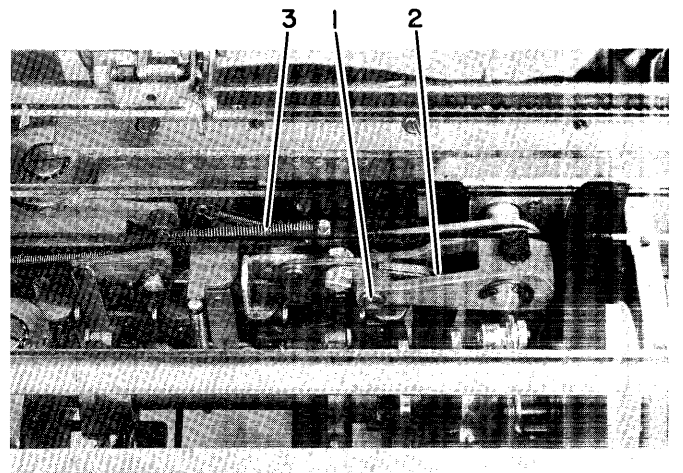

Figure 24. Rotate Selection Differential Removal
13. Remove the balance-arm mounting stud (#1, Figure 24).
14. Disconnect the minus-five bail drive link from the right end of the balance arm (#2, Figure 24).
15. Disconnect the tilt-differential spring (#3, Figure 24).